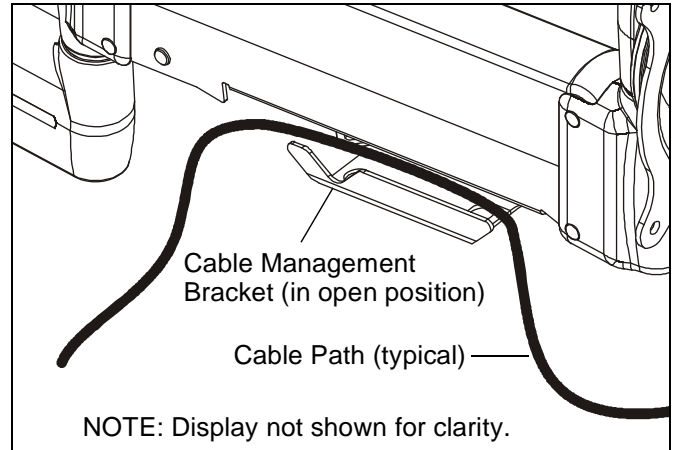

Figure 6:
3. Carefully insert cables into bracket (See Figure 6).